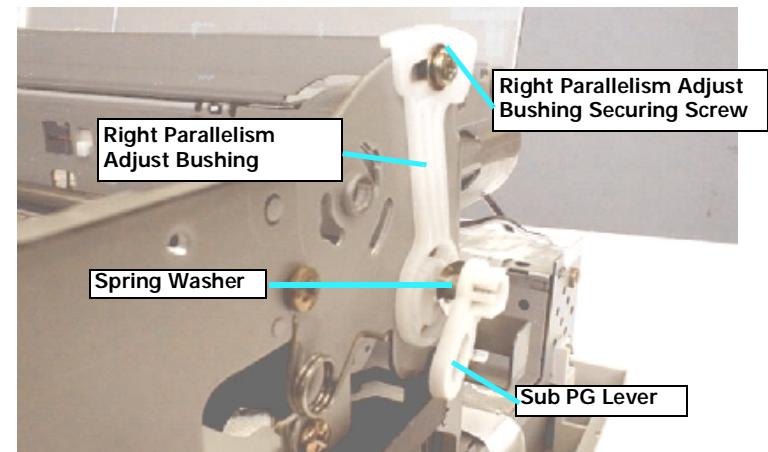

Figure 4-41. Sub PG Lever and Spring Washer Removal
- When installing the Spring Washer, convex side should face to the Right Parallelism Adjust Bushing. Be careful not to install it in wrong direction. (See Figure 4-41.)